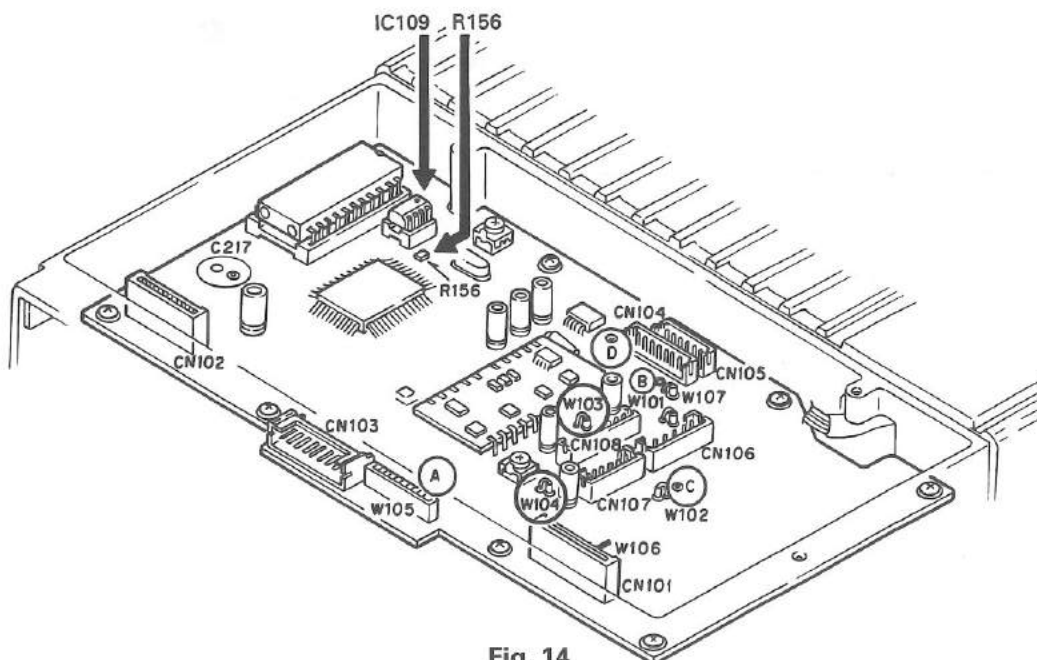

Fig. 14
2) Remove IC109 from the control unit (X57-5050 A/4) and install the KCH-5 EEPROM (X24C16PI) by soldering. (Fig. 14)
3) Remove R156 (R92-0670-05) of the control unit. (Fig. 14)
2) Remove IC109 (X24C04PI) of the control unit (X57-5050 A/4) from the socket, and install the KCH-5 (X24C16PI). (Fig. 14)